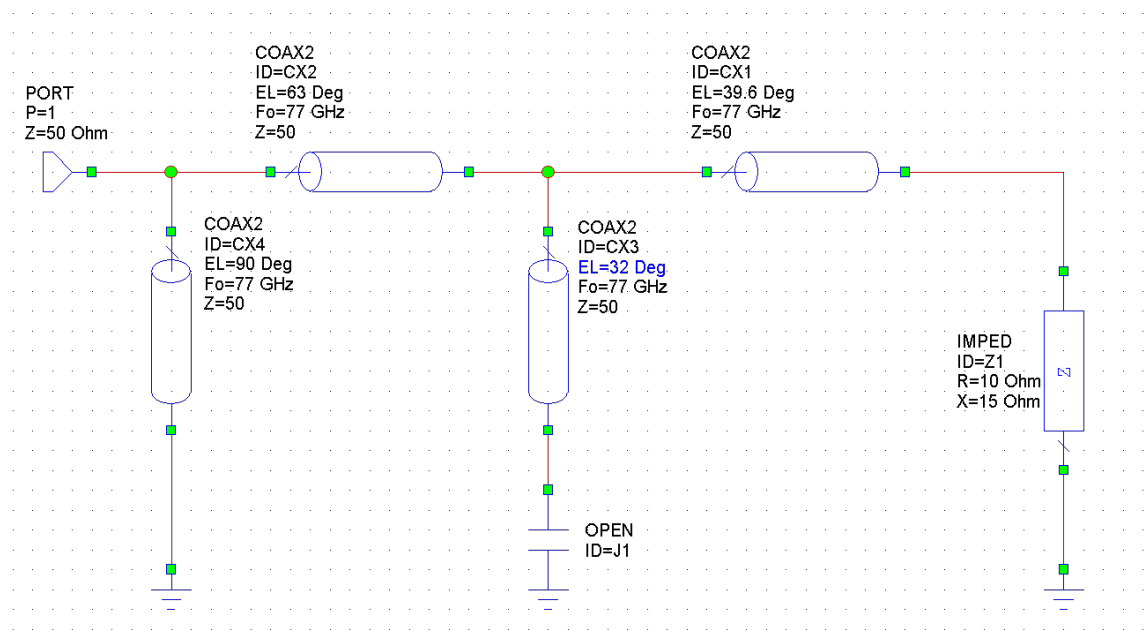

Figure 11.4: Chart 9 : Double Stub Circuit
- Add a S/C stub in parallel with the input port. Use COAX2 + Ground, see figure 11.4.